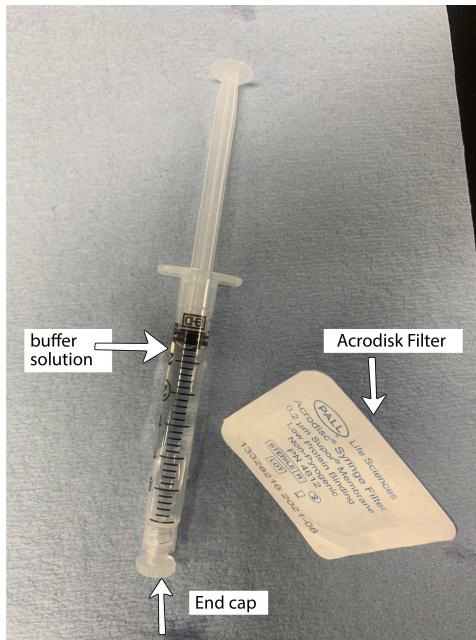

Fig. 11. Buffer solution in pre-filled syringe with Acrodisc filter.
- 30 Remove the filter and attach to a sterile 60 ml syringe full of air (Fig. 11). Point the syringe down and depress the plunger slowly over the beaker until all the water is removed from the filter. Detach the syringe and screw the push-cap from the whirl-pak bag on the male-end (outlet end) of the filter.